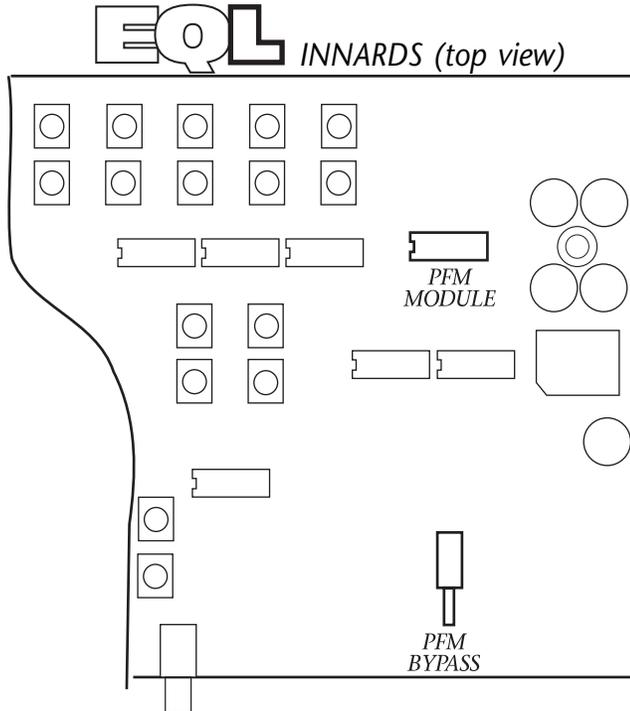

Figure 8. Removing the top panel lets you access the internal Programmable Frequency Match module and Bypass Switch.
The Programmable Frequency Match filter module is internal and can be accessed by removing the four top screws and lifting the top panel off the base, as shown in Figure 3 (also see Figure 8 on page 19). Be sure to turn off the power before you open the EQL.
2. Remove the top panel and locate the Programmable Frequency Match module, as shown in Figure 8.